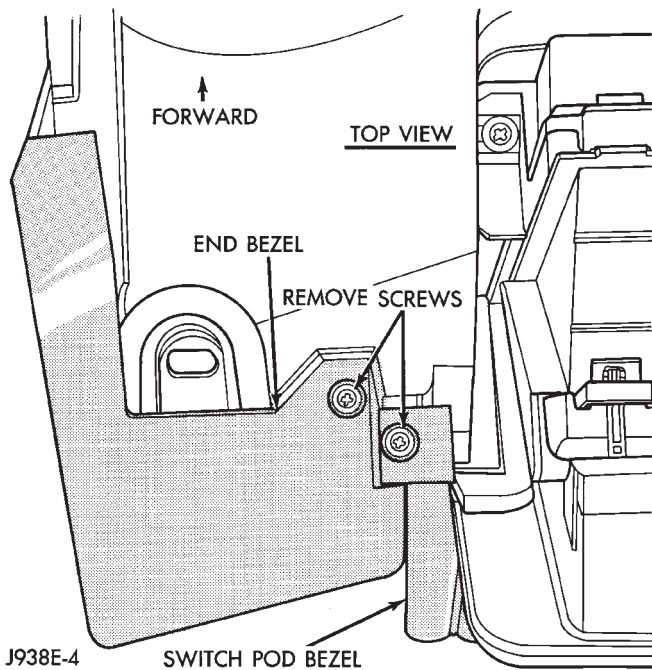

Fig. 8 Remove Screws Holding Top Of Bezels
- (18) Remove 2 screws holding top of end and switch pod bezels (Fig. 8). The end bezel can now be removed.